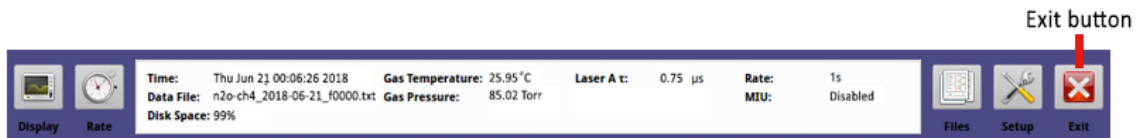

Figure 39: User Interface Control Bar Exit Button
1. Click the **Exit** button on the *User Interface Control Bar*. (Figure 39)